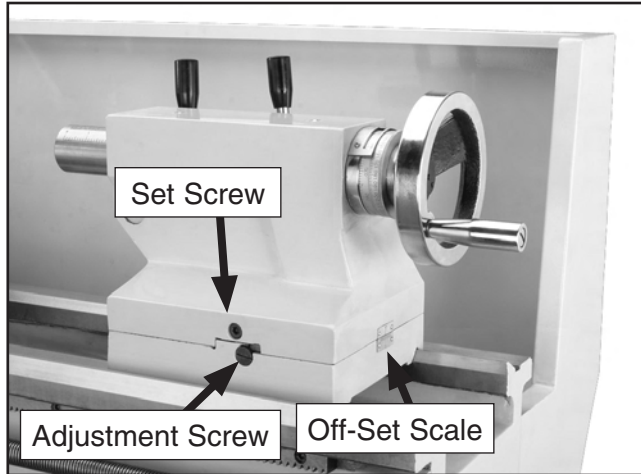

Figure 34. Off-set scale.
- Alternately loosen and tighten the two side adjustment screws until desired offset is indicated on the scale (see **Figure 34**).